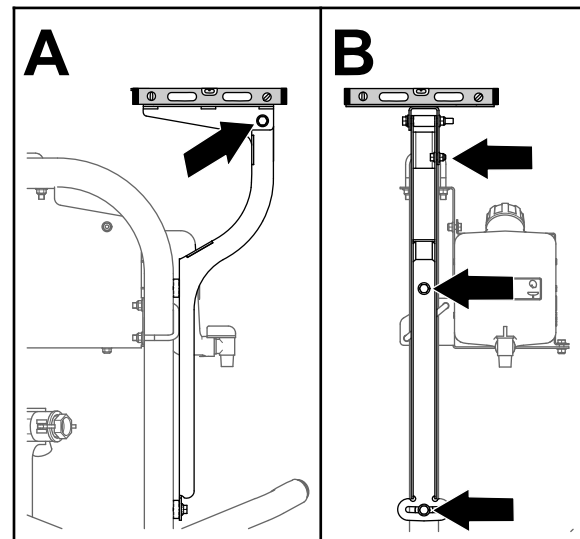

Figure 155
- Level the receiver plate left to right (Figure 155).
- Level the receiver plate front to back (Figure 155).